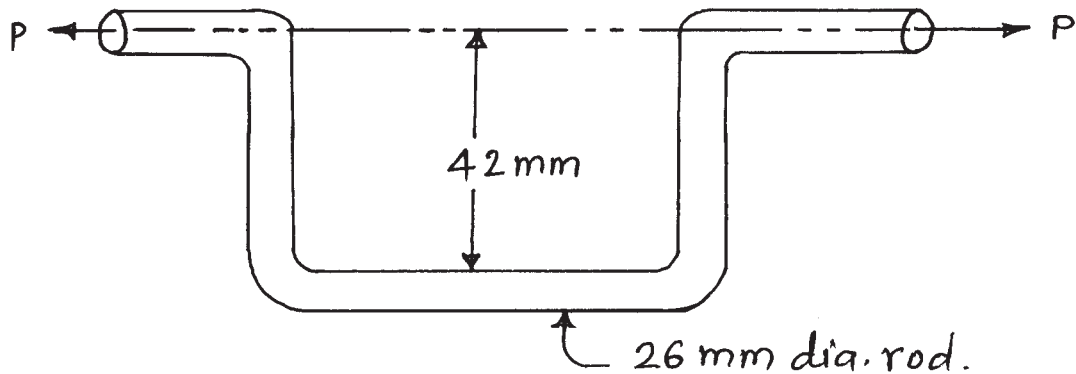

Fig. No. 2
- e) A 26 mm diameter rod is bent up to form as offset link as shown Figure No. 2. If permissible tensile stress is 90 N/mm^2 , calculate maximum value of ' P '.